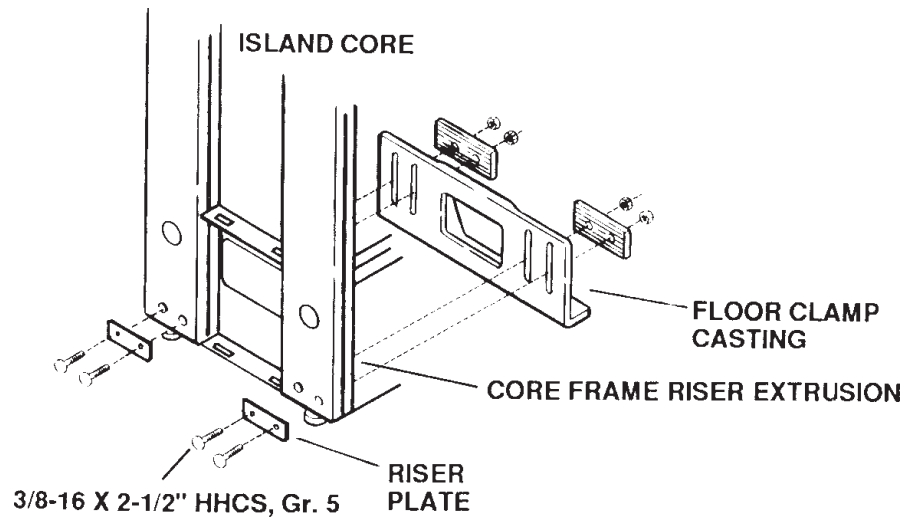

Figure 1
1. Fasten end of island core to floor clamp casting using 3/8-16 x 2-1/2" HHCS. Riser plate should be under the head of 3/8" screw and on the outside of the riser. See Figure 1. Refer to Floor Clamp Installation Instructions, page 16.